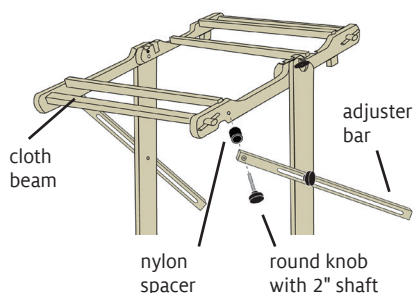

FIGURE 6: ATTACH ADJUSTER BARS TO THE LOOM
12. Slide the T-knobs into the slots in the tops of the uprights (Figure 6).
15. Push a round knob with a 2" shaft through the hole in the adjuster bar (Figure 6).